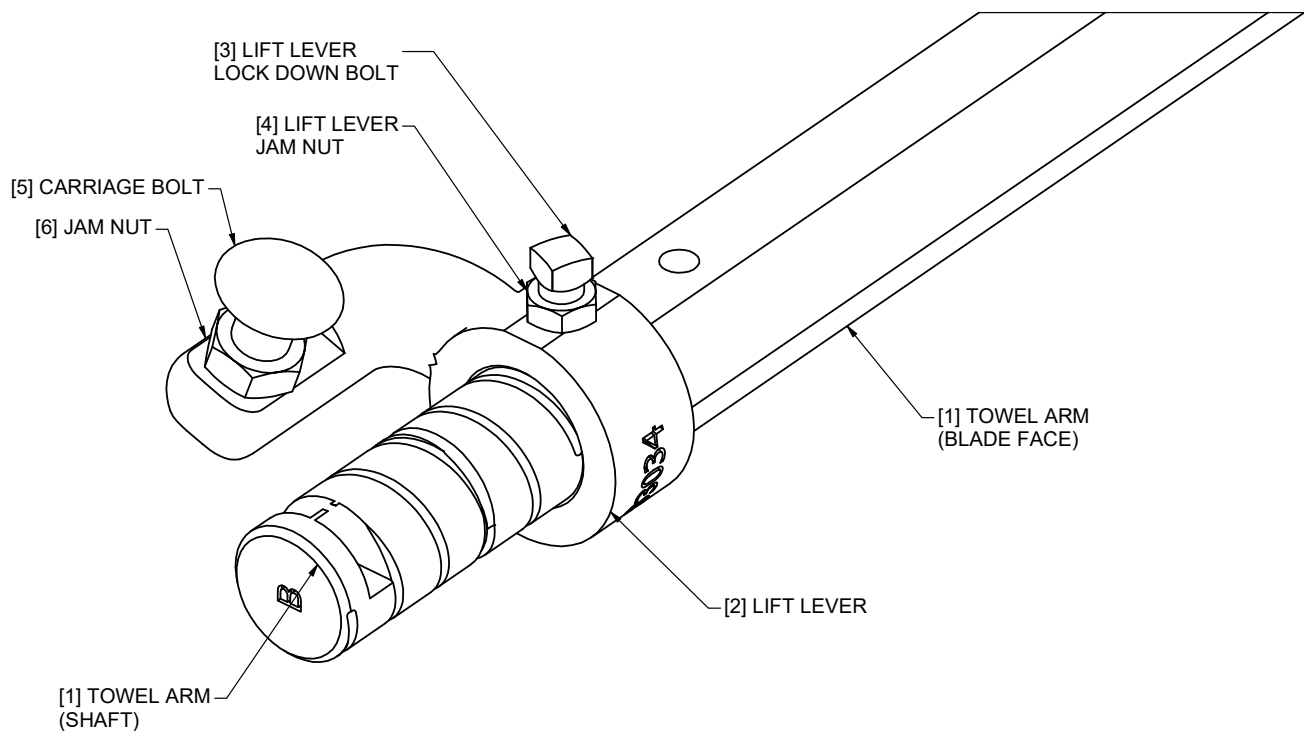
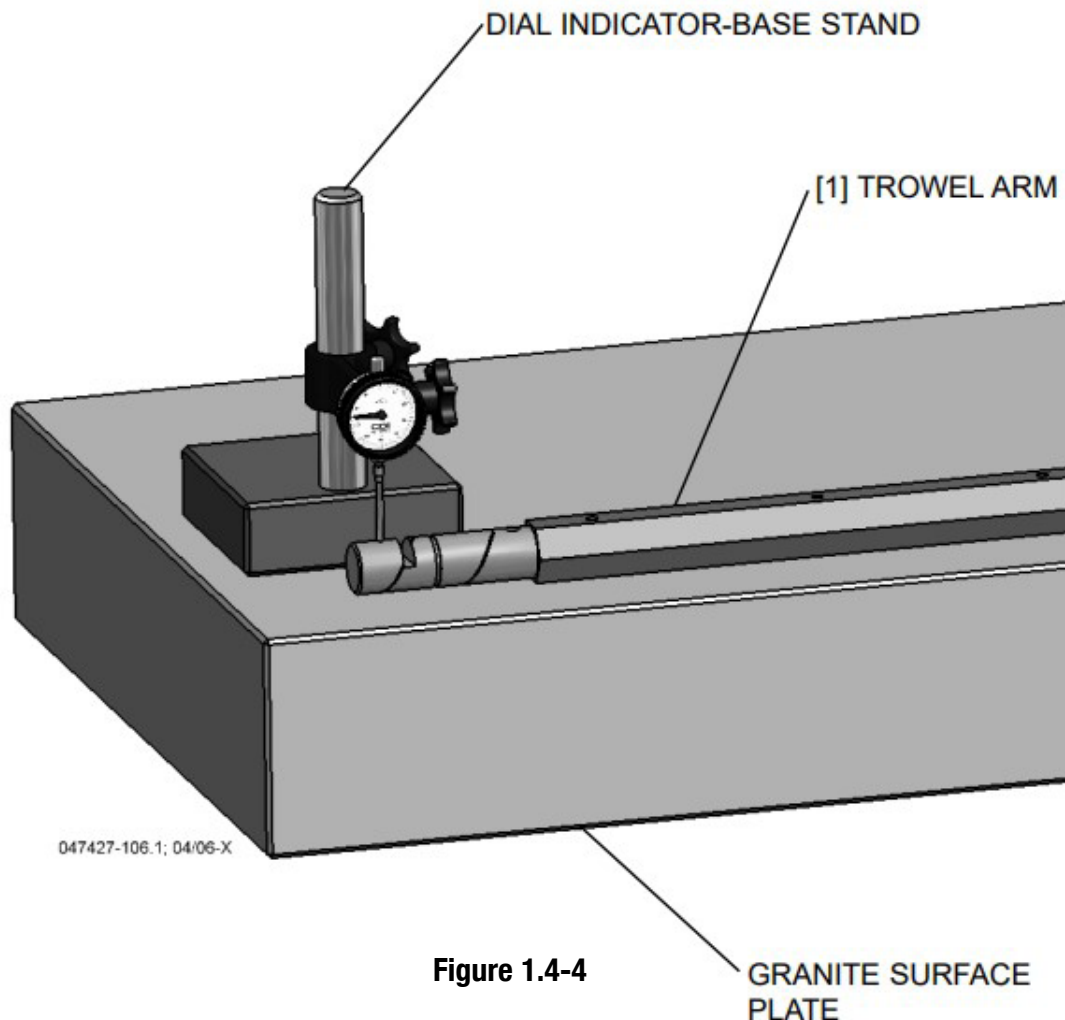

Figure 1.4-1
Figure 1.4-4
Refer to Figure 1.4-1 (for Flatness Check) and Figure 1.4-4 (for Circularity Check) to locate and identify components described in the following procedures.
- Step 2:** Place the trowel arm onto a extremely flat and stable surface. It is highly recommended that a granite surface plate be used to perform this procedure accurately. Refer to Figure 1.4-4.